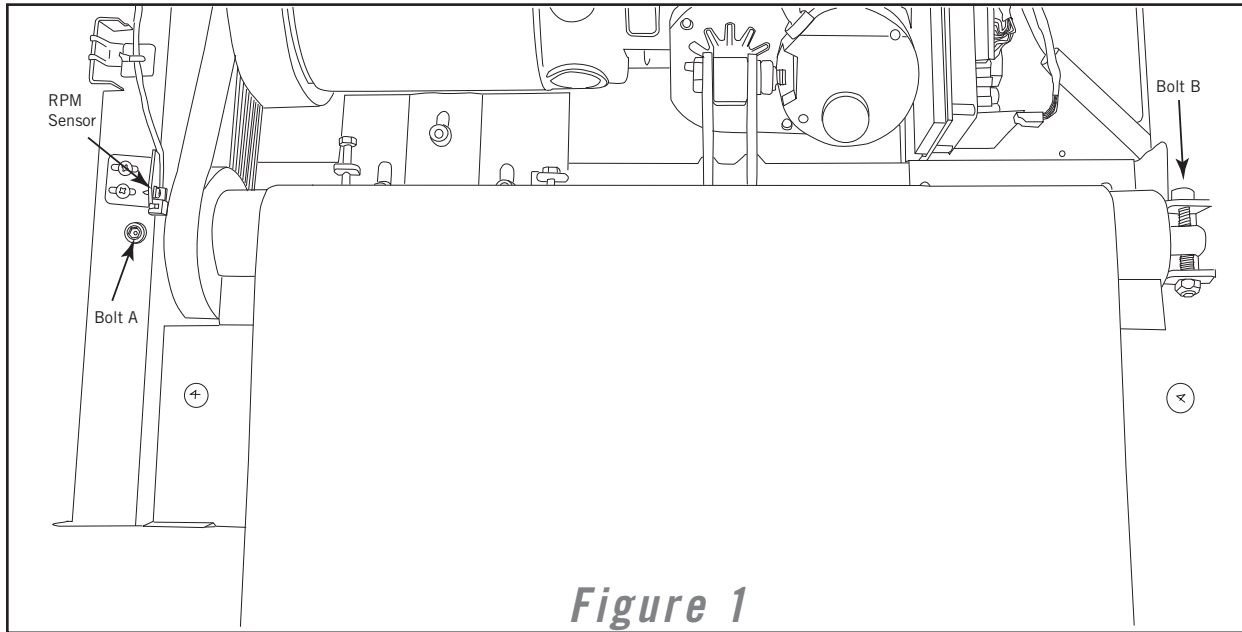

Figure 1
- 5) Detach the front roller bolt A on drive belt side (Figure 1).
- 6) On the opposite side of front roller detach front roller bolt B (Figure 1).